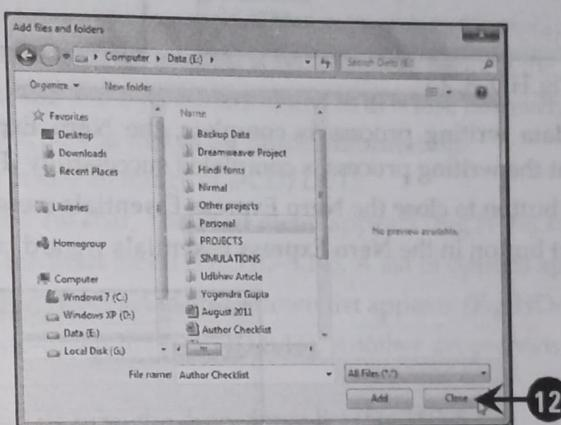

Fig.HD-8.20
12. Click the Close button in the Add files and folders window, as shown in Fig.HD-8.20: